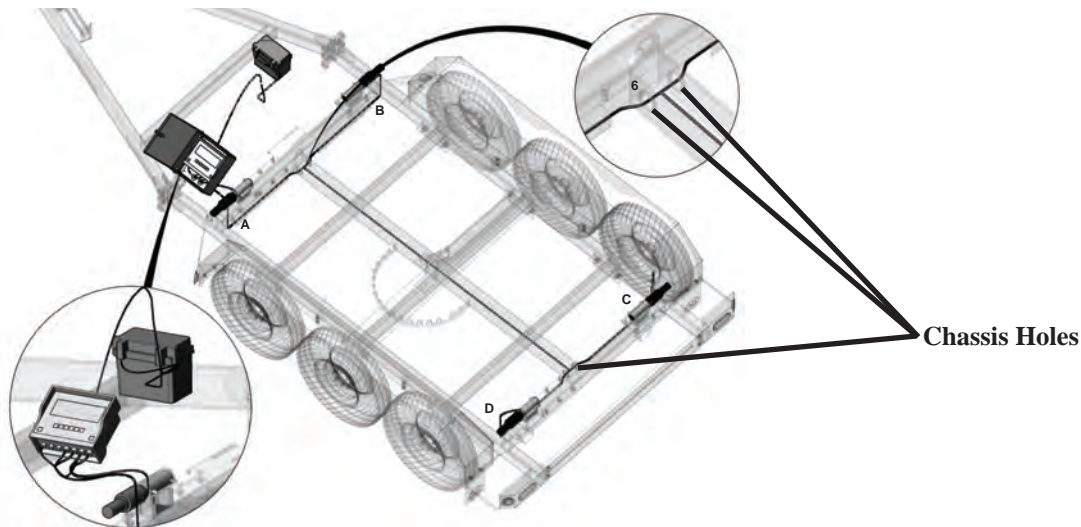

Figure 6.4
11. Remove the four 1 3/8" grommets located in the four chassis holes (Figure 6.4)
12. Slide one grommet on to each of the weigh bar wires of B,C, and D. (Figure 6.4)
13. Route each wire from B,C and D so they exit chassis hole (#6) (Figure 6.4).
14. Slide the grommet from chassis hole (#6) over the wires from B, C, and D. (Figure 6.4).
15. Reinstall the grommets back into the chassis holes. (Figure 6.4).
16. Push excess wires into chassis hole (#6) (Figure 6.4).
24. Push extra wire back into chassis holes (#6). (Figure 6.4)